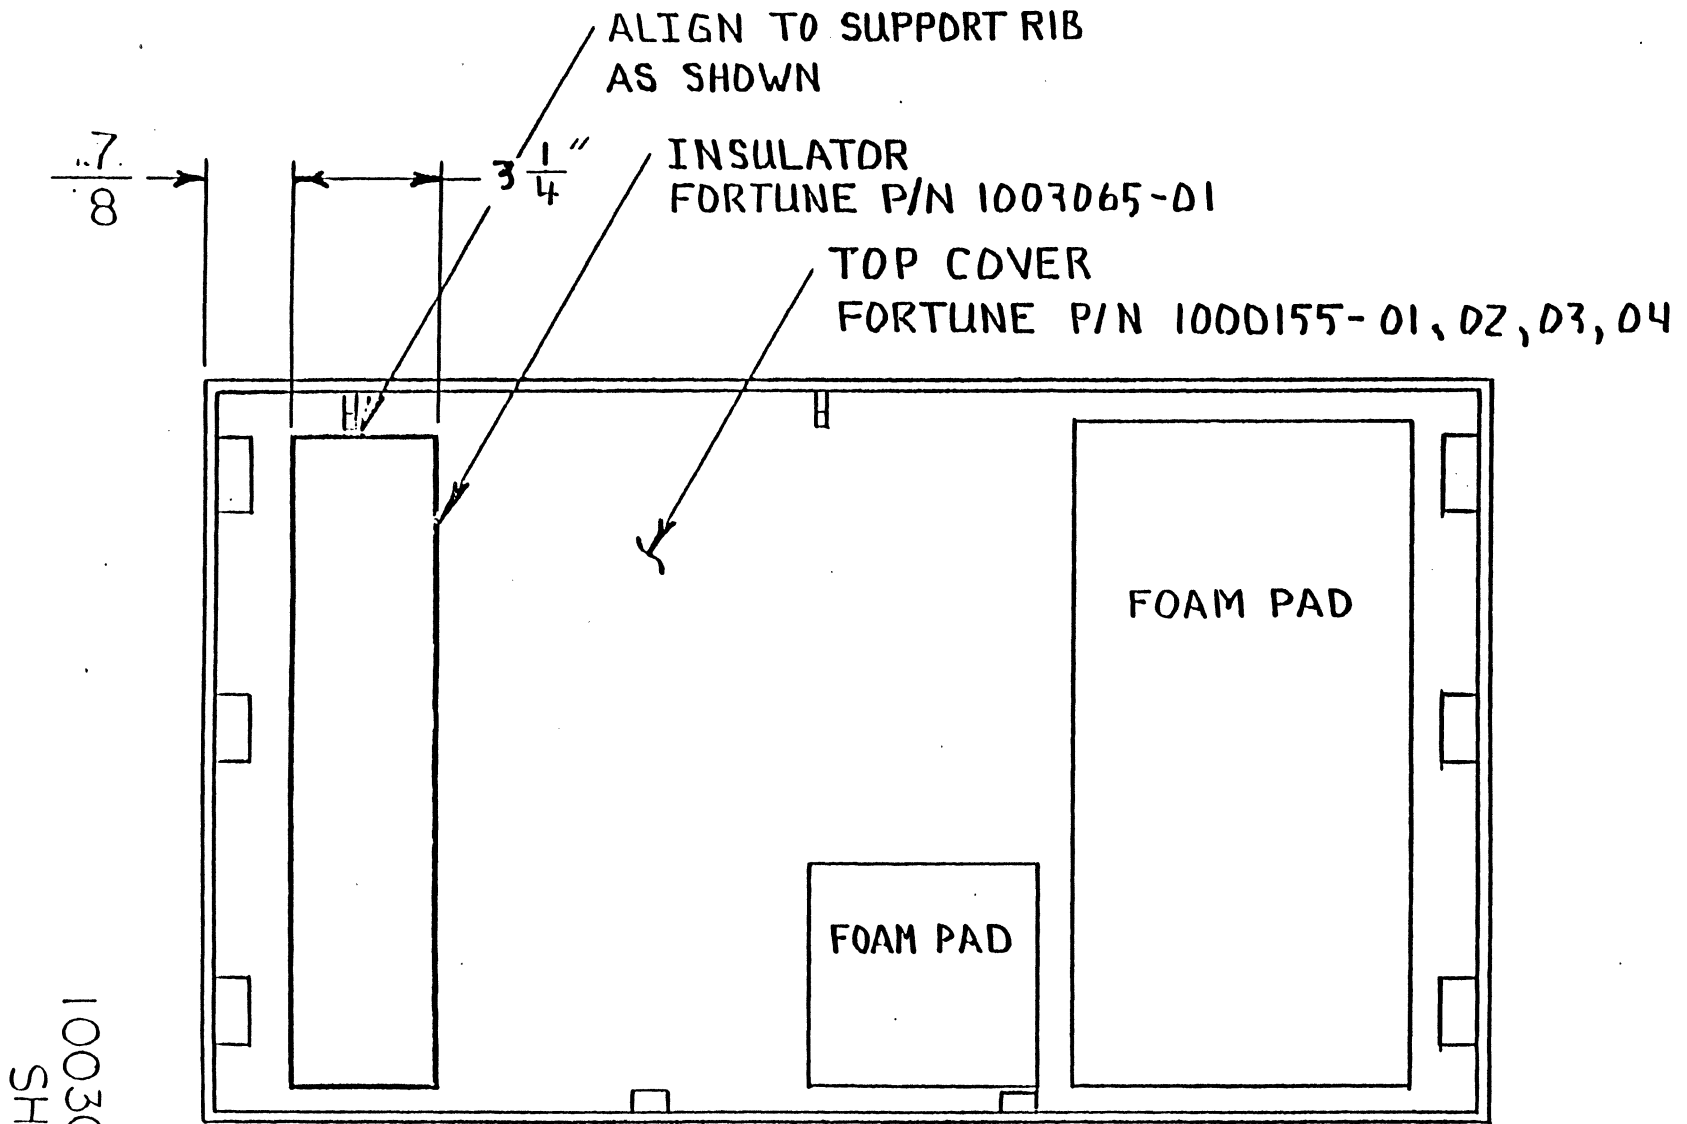

FIGURE 4
6. Invert the CPU top cover, and install insulator as shown in figure 4.